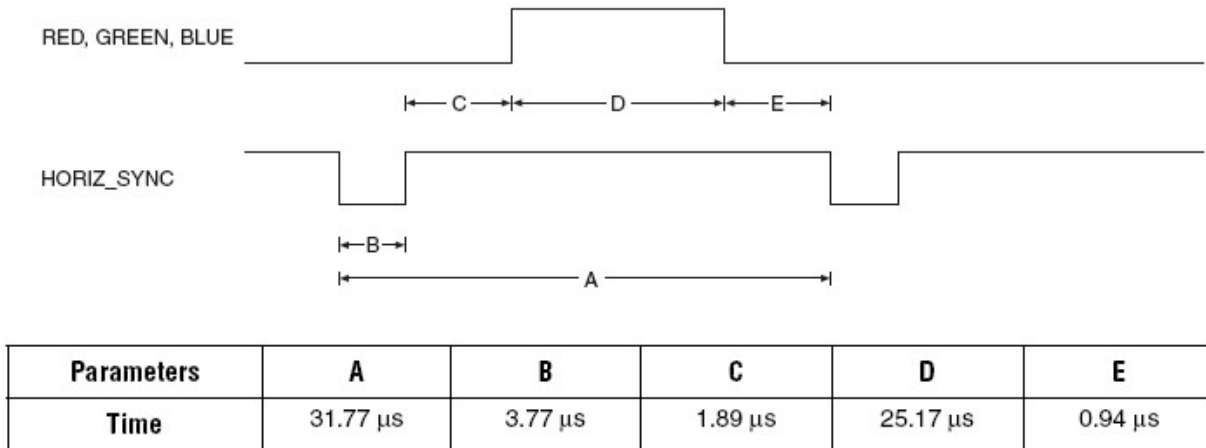
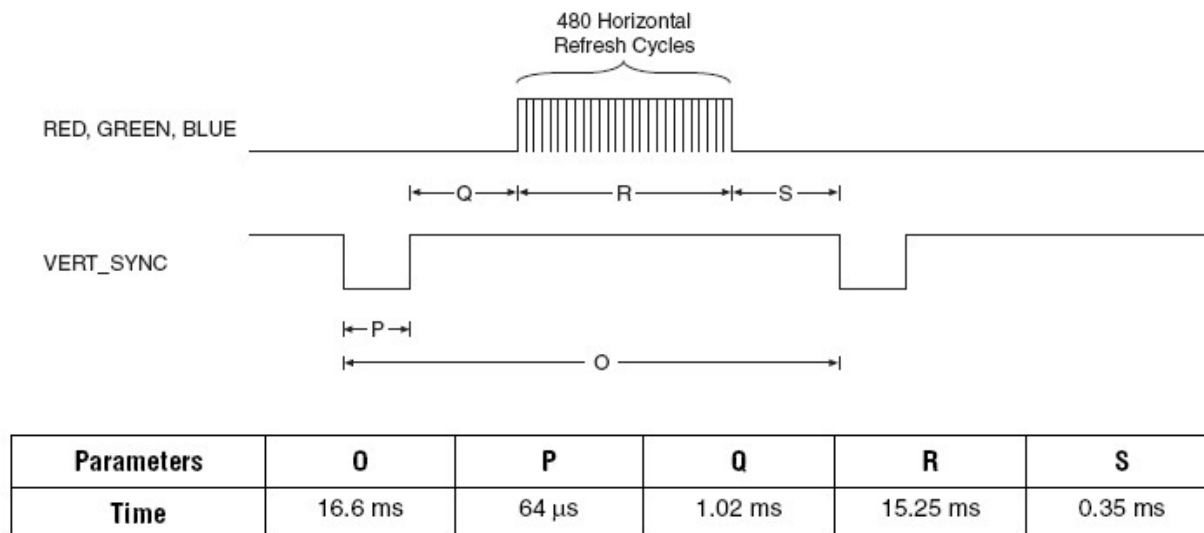

Figure 1. Horizontal Refresh Cycle.
Figure 2. Vertical Refresh Cycle.
The VGA monitor connector on the UF-4712 board consists of five signals, RED, GREEN, BLUE, `HORIZ_SYNC`, and `VERT_SYNC`. Look into the UF-4712 Board Guide for the header pin outs for the UF-4712 board for these 5 signals. The timing relationships among this signal are shown in **Figures 1 and 2** at the end of this lab write-up. The generation of signals needed for the raster on the VGA monitor begins with dividing the frequency of the 25.175 MHz clock on the UF-4712 board down to the horizontal and vertical sync frequencies. This means your design will contain a **horizontal counter** and a **vertical counter**. The horizontal and vertical sync pulses of appropriate lengths are then produced from the two counters.
Horizontal and vertical synchronization. A video display consists of 640 pixels in the horizontal direction and 480 lines of pixels in the vertical direction. The monitor starts each refresh cycle by updating the pixel in the top left-hand corner of the screen, which can be treated as the origin (0,0) of an X–Y plane. After the first pixel is refreshed, the monitor refreshes the remaining pixels in the row. When the monitor receives a pulse on the **`HORIZ_SYNC`** pin, it refreshes the next row of pixels. The time required for the sweep (i.e. the horizontal sweep period) is 31.77 μ s. This process is repeated until the monitor reaches the bottom of the screen. When the monitor reaches the bottom of the screen, a 64 μ s pulse is applied to the **`VERT_SYNC`** pin, causing the monitor to begin refreshing pixels at the top of the screen (i.e., at [0,0]). As shown in Figure 2, the `VERT_SYNC` pulse must be repeated every 16.6 ms (vertical sweep period). A complete screen of information is traced by the electron beam every 16.6 ms for a frame rate of 60 Hz.
Blanking intervals. In order to accommodate the time required to move the electron beam back to the left side of the screen (horizontal retrace period) the electron beam must be turned off during the retrace time or the return trace would be visible. This is accomplished by two blanking intervals during the horizontal refresh cycle marked by B and C at the beginning of the trace and E at the end of the trace in Figure 1. Similar blanking intervals are required during vertical refresh (P, Q, and S in Figure 2). The color beams are turned on only when the horizontal counter is in the period D and the vertical counter is in period R.
- IMPORTANT- A value of zero on Hcount corresponds to the beginning of section D in Figure 1.
- IMPORTANT- A value of zero on Vcount corresponds to the beginning of section R in Figure 2.